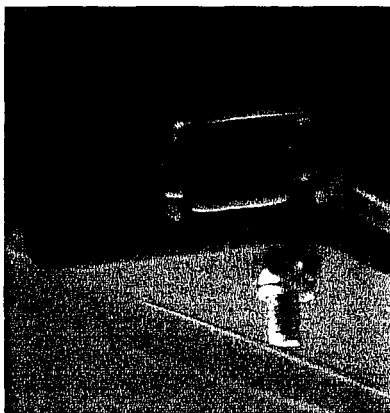

Fig. 8
6. Reinstall the telescoping slide with the new Screw, part #TBB 69002073, Nut, part #TBB 29940013, and the original teflon washer. Fig. 8 & 9